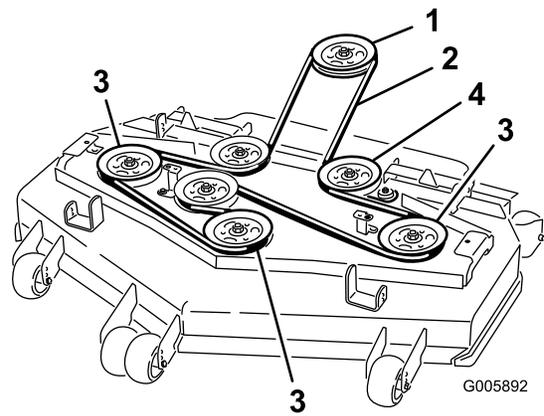

Figure 63
8. Install the new belt on the pulleys (Figure 63).